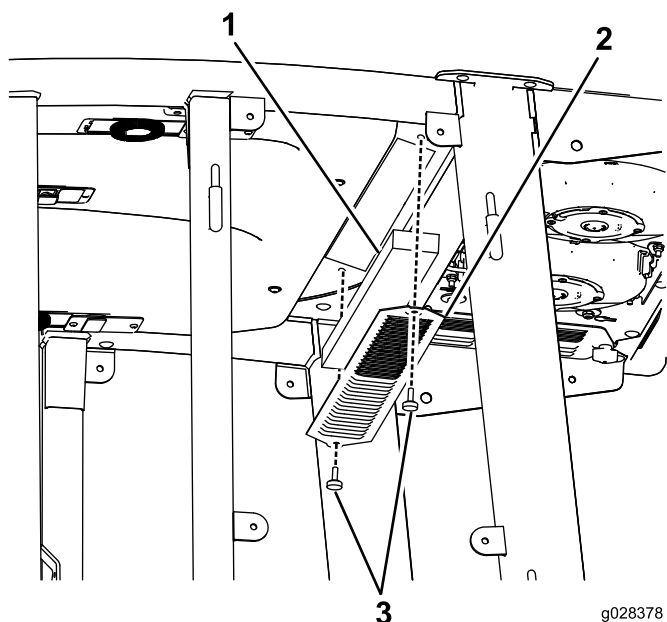
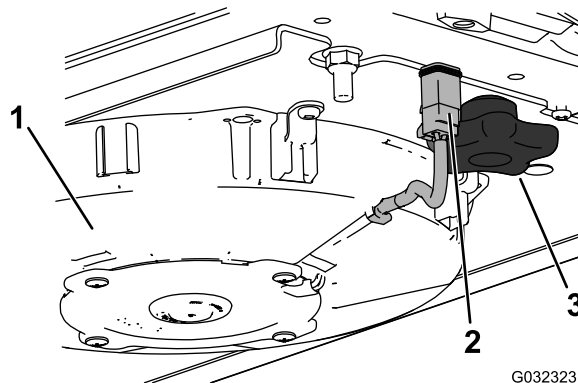
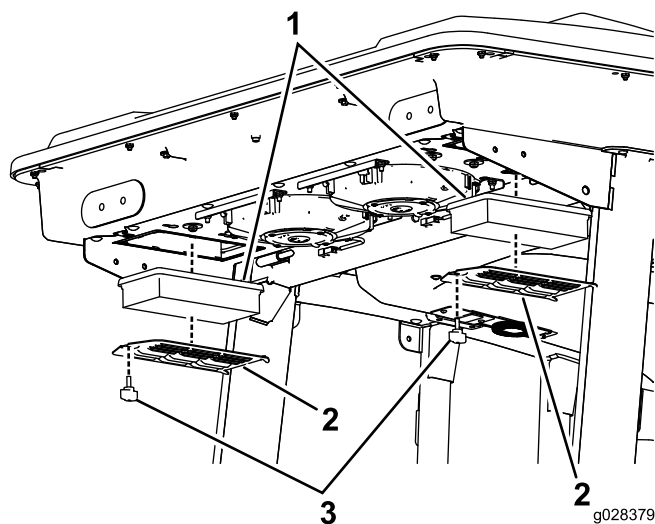
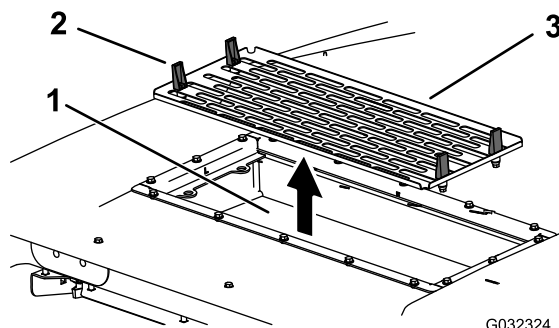

Figure 89
Figure 91
Figure 90
Figure 92
1. Remove the screws and grates from both the in-cab and rear cab air filters (Figure 89 and Figure 90).
5. Remove the air filters (see Figure 90).
7. Install the air filters, screen, and fan assembly (Figure 90, Figure 91, and Figure 92).
8. Connect the wire for each fan (Figure 91).